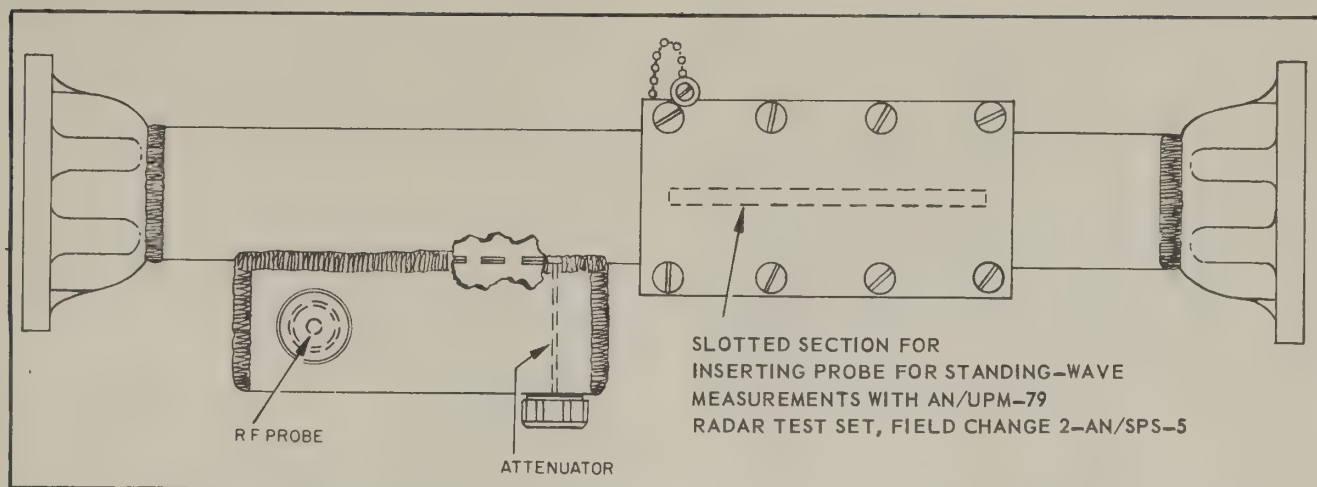

Figure 2-25. Directional Coupler CU-245/U: Simplified Diagram
13. RADAR TEST SET AN/UPM-79 (See Figures 2-25 and 2-26A)